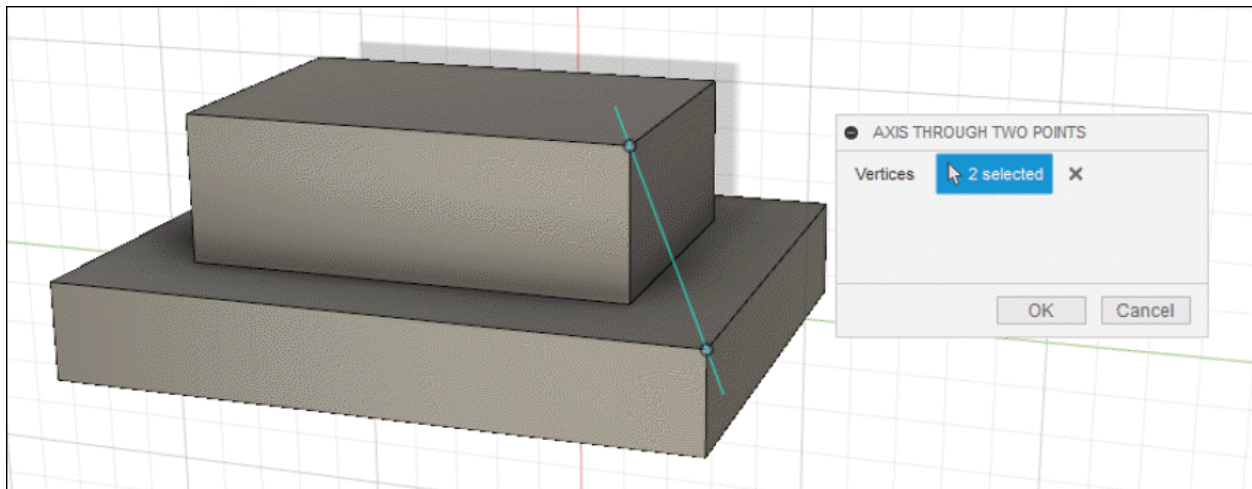

Figure-114. Preview of axis through two points
- Select the two points from model; refer to Figure-114. Preview of axis will be displayed. Click on the **OK** button from the dialog box to create the axis.